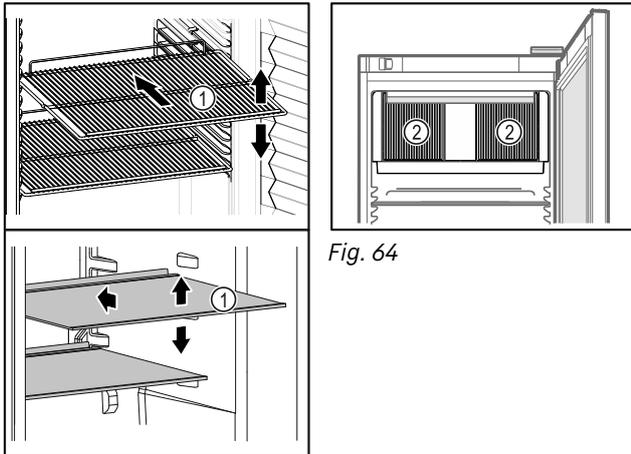

Fig. 63 Example illustration
- If storage surfaces Fig. 63 (1) are movable, adjust them according to height.